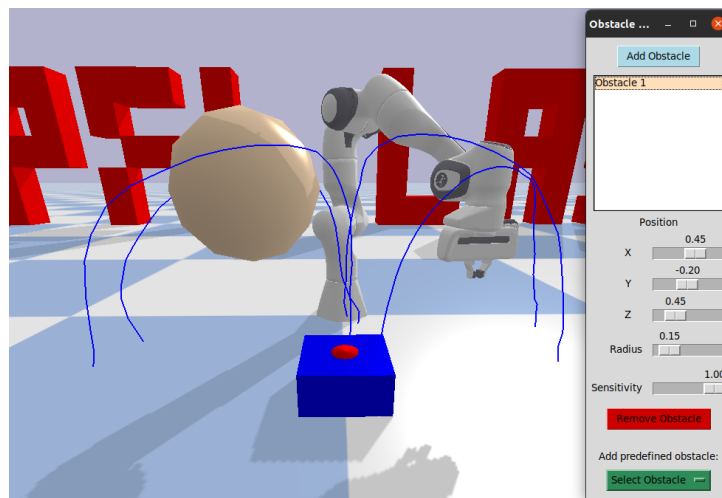

Figure 15: Obstacle for learning trajectories
4. Add an obstacle and place it on one of your recorded trajectories as shown in Fig. 15.